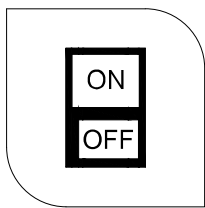

Figure 1
1. Turn off the switch and circuit breaker before installing this LED light fixture. (See Figure 1)